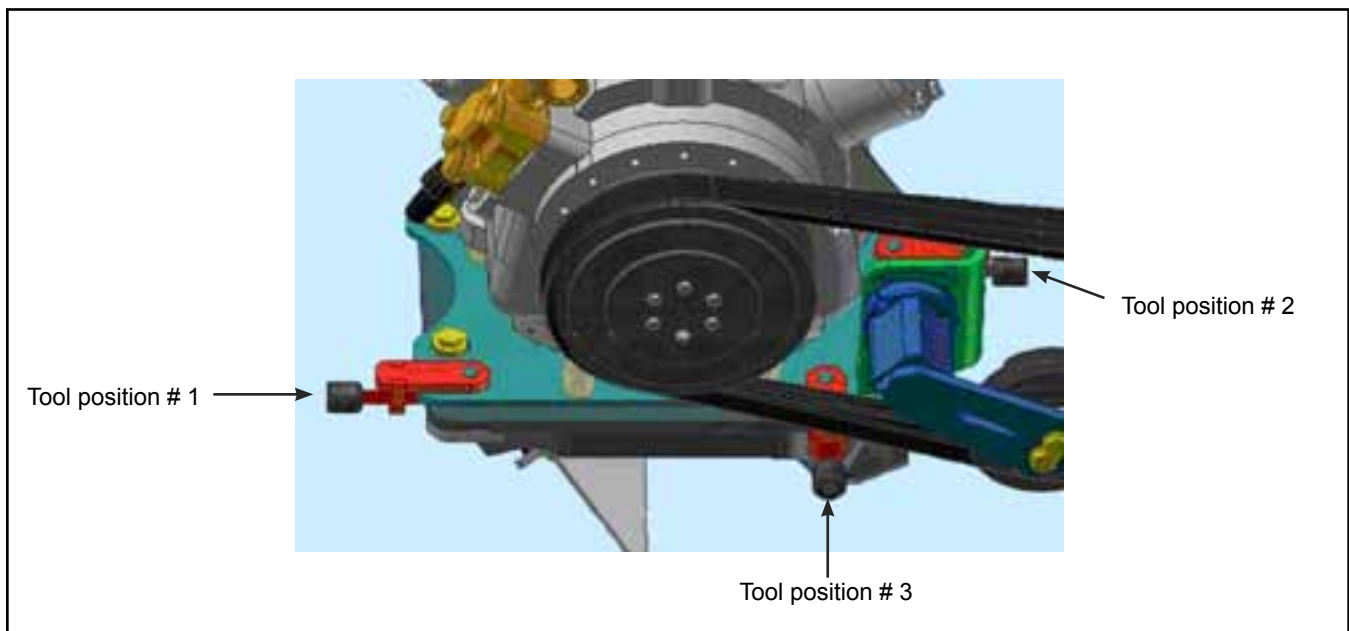

Figure 4 - Compressor Adjustment Tools Position
1.8. Install the three compressor adjustment tools, with the same part # NT0886, on the pins of the compressor plate. See Figure 4.
- 1.11. Align the compressor using the tools numbered one, two and three, installed on the compressor plate. See Figure 4.